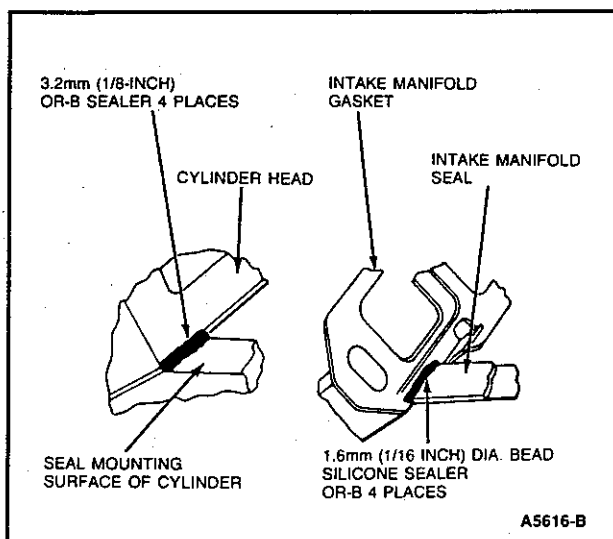

Figure 49 RTV Sealer Installation Intake Manifold
2. Clean the mating surfaces of the intake manifold, cylinder heads and cylinder block using a solvent such as Ford Spot Remover or equivalent. Apply a 1/8 inch bead of RTV sealer (or B) at the points shown in Figure 49.
3. Apply a 1/16 inch bead of RTV sealer to the outer end of each intake manifold seal for the full width of the seal (4 places). See Figure 49.